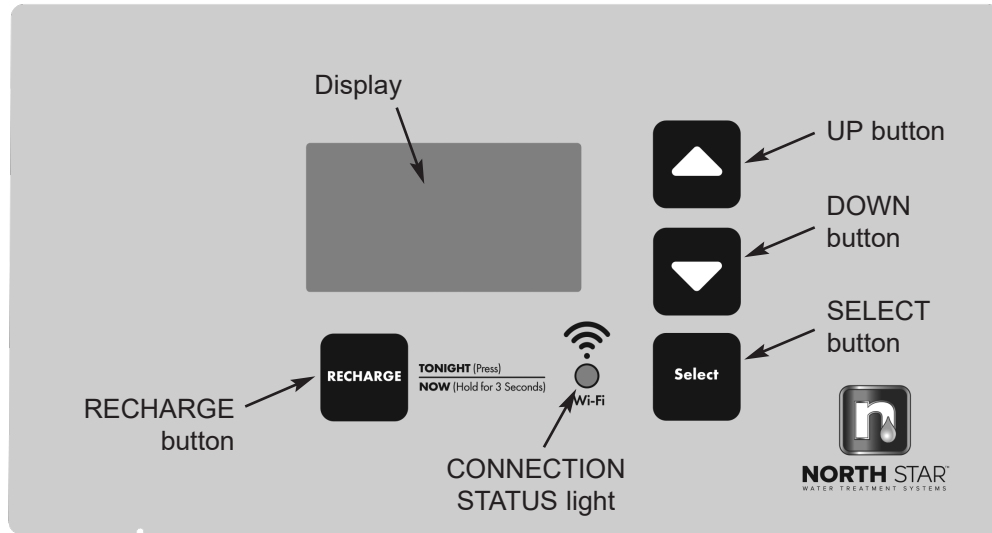

FIG. 16
5. Initiate a regeneration by pressing and holding for 3 seconds the RECHARGE button (see Figure 16 on page 14). The valve motor will start running and the valve will advance to the “Fill” position.